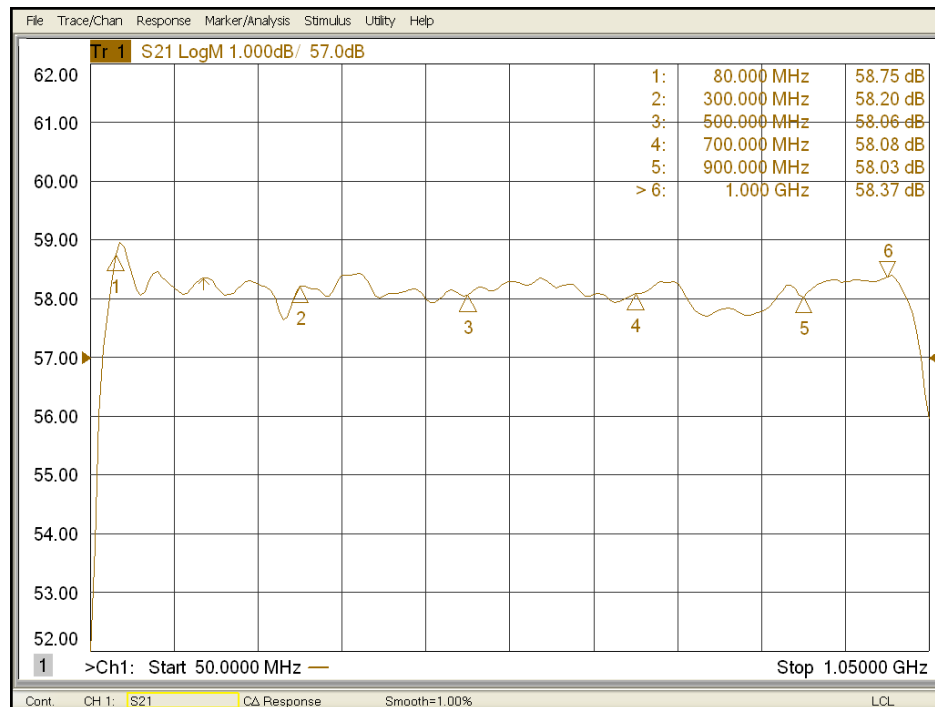
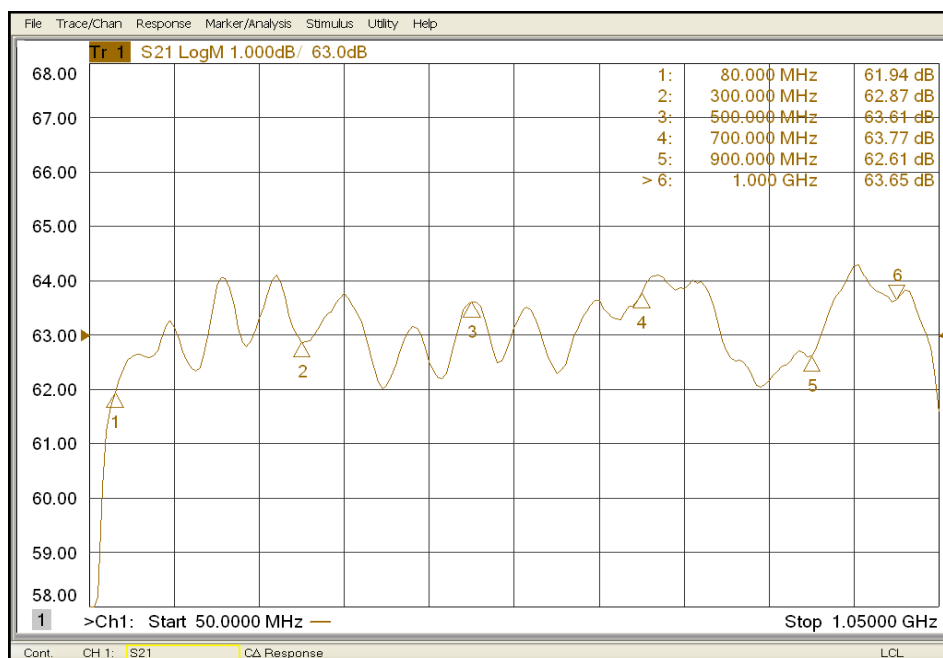

Figure 4-1. Typical Response at 0 dBm Input
Figure 4-2. Typical Response at -20 dBm Input
1. The Model 500W1000C's typical gain response at 0 dBm input and -20 dBm input is shown in Figures 4-1 and 4-2. The actual gain may vary considerably from that shown in Figure 4-1 but should be ≥ 57.0 dBm. Figure 4-2 should be ≥ 63.0 dBm. *NOTE: If the overall gain is low, the amplifier chain can be separated at the input of A3 Four-Way Splitter.*